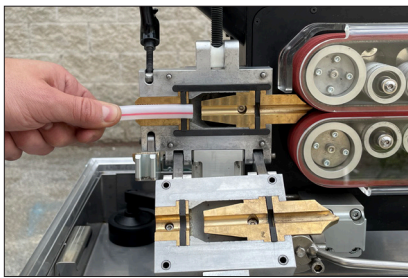

Fig. 1
- Open the clamps of the duct adapter and the cable adapter, and insert the duct into the duct adapter (Fig. 1).